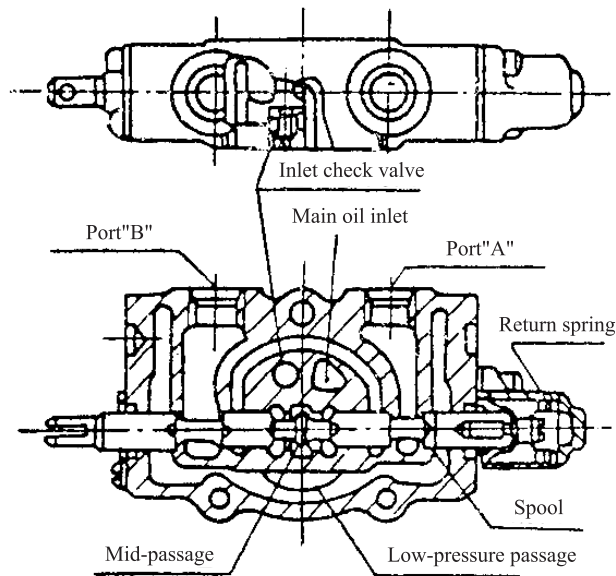

Fig.9-2
(1) Neutral position (See Fig.9-2)